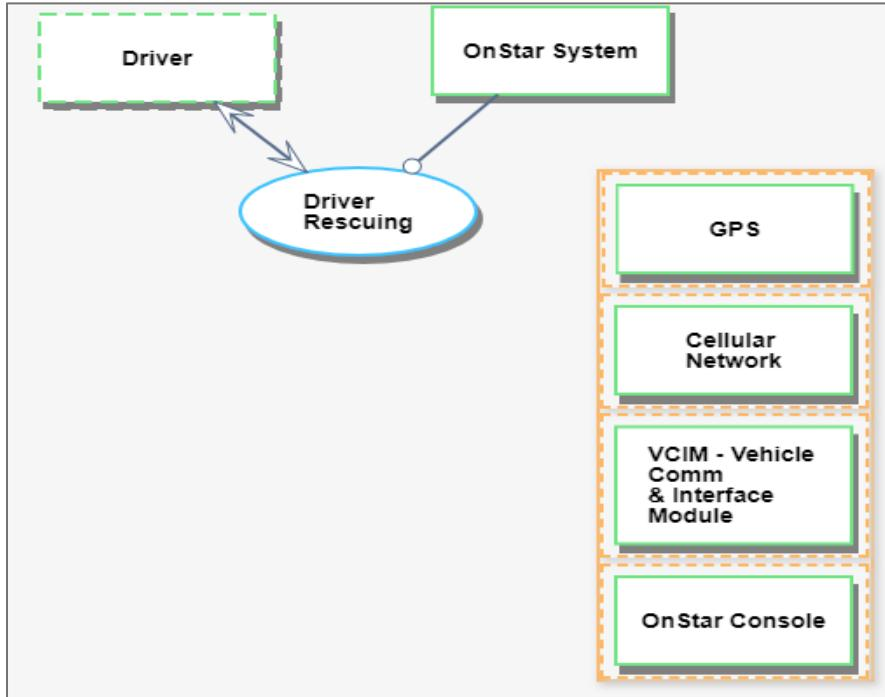

Figure 27. Multiple selection is done by holding the **Ctrl** key and clicking on the elements one by one.
- (1) **Multiple-select:** While holding the Ctrl (Control) key, select each one of the objects to be linked, they will be highlighted in orange. Now draw a link to one of the things in the selected group, the result is presented in Figure 27.